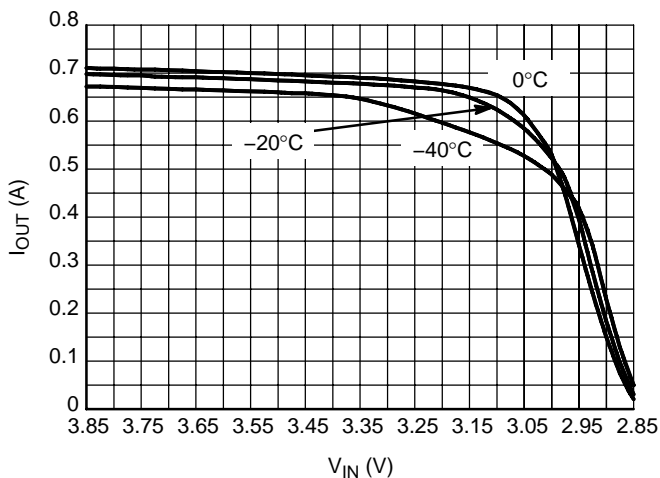

Figure 8. Output Current Capability for the 2.85 V Version
4. For output current capability for $T_J < 0^{\circ}\text{C}$, please refer to Figure 8.